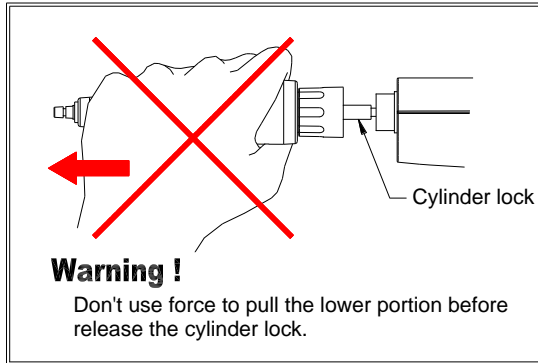
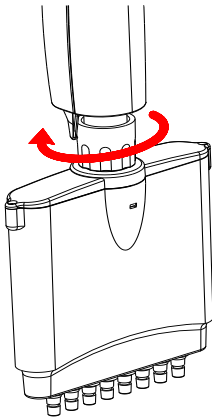

Figure 10: Wrong operation of Lower Part disassembly
Figure 11: Rotate the connecting nut clockwise.
Only the lower part of pipette can be steam-autoclaved (121°C, 1 bar, 20 minutes). The autoclaved parts must be allowed to dry completely at room temperature for at least 2 hours. You can follow Figures 11~14 to disassemble the pipette.. **DO NOT** use excessive force to pull down the lower part before releasing the cylinder lock as shown in Figure 10. This action may break the connection mechanism of the lower part.
2. Loosen the lower part of the pipette by rotating the connecting nut in the clockwise direction as shown in Figure 11.